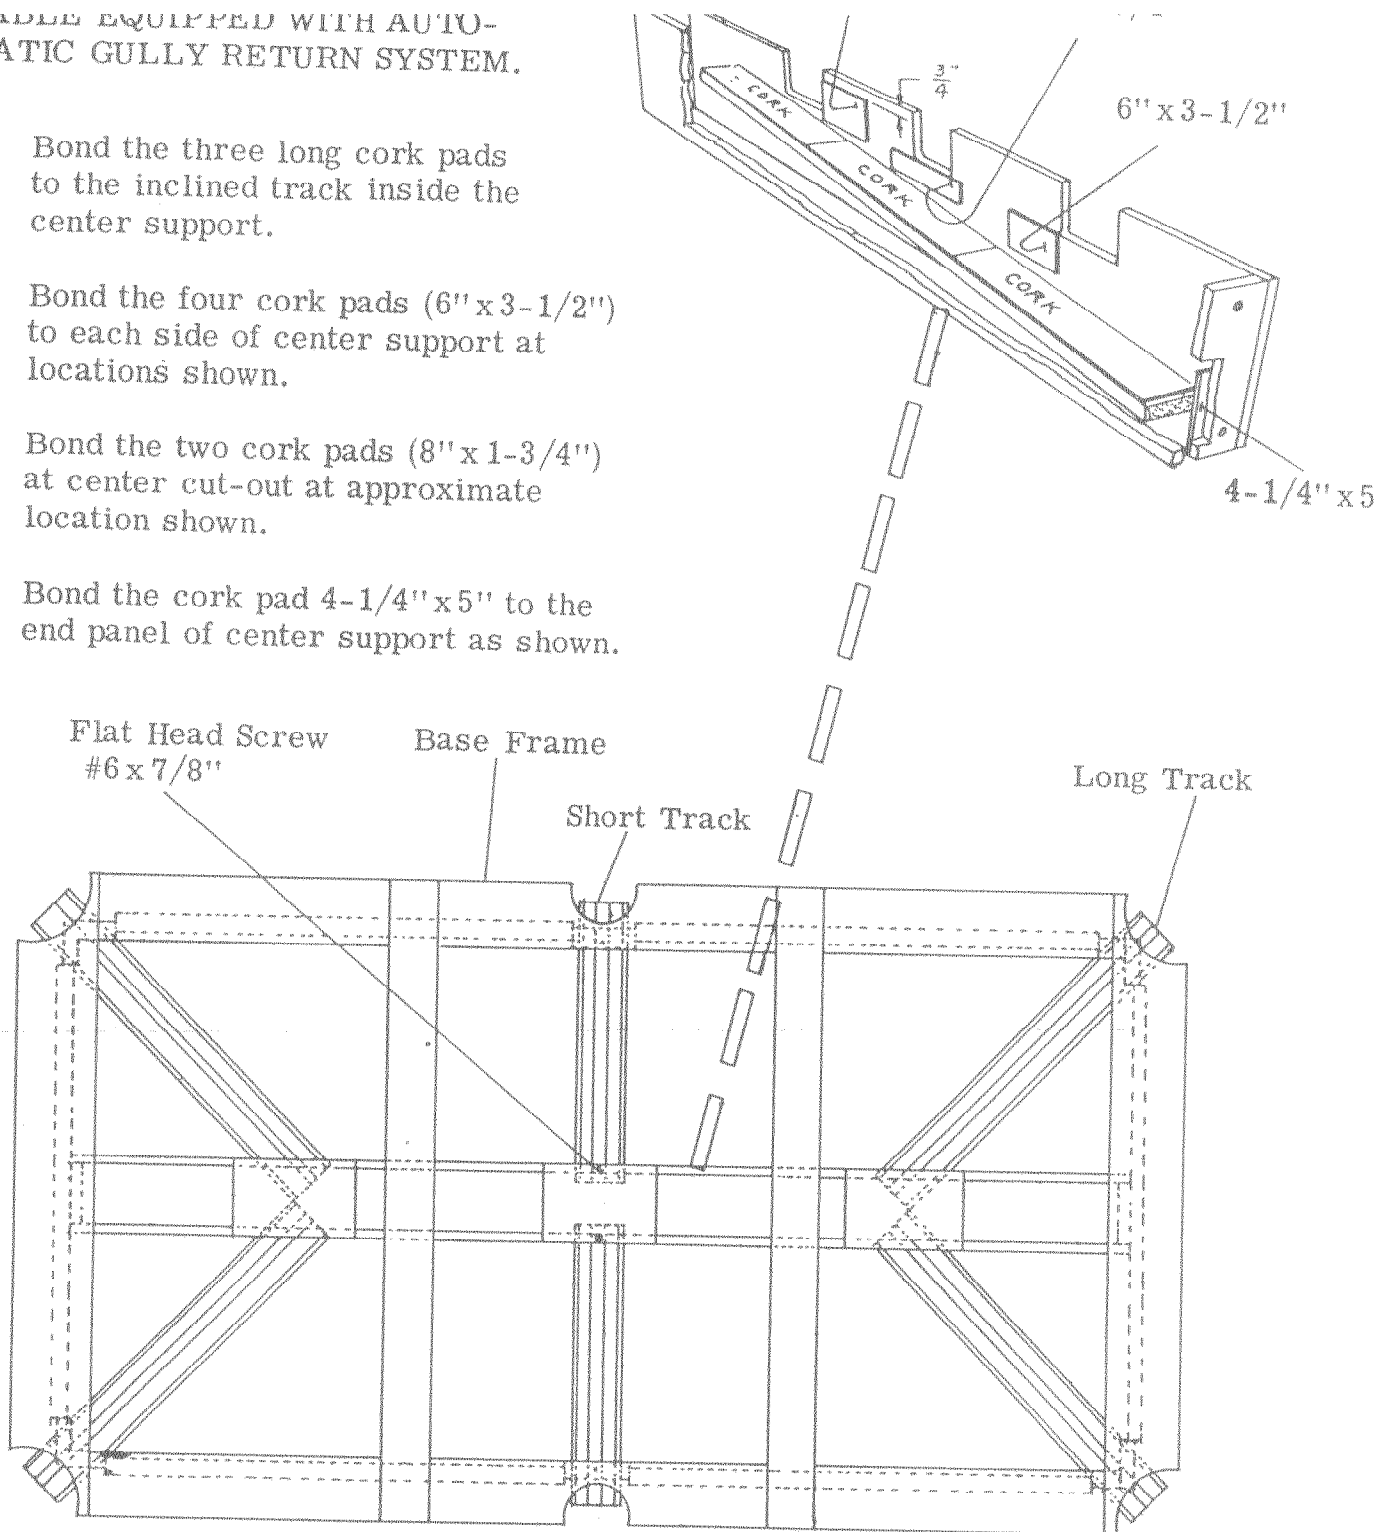

FIGURE 5
5. Position the two short gully tracks at center pocket cut-outs as shown in Figure 5. The pilot holes at one inch from edge of gully track to be at center support.